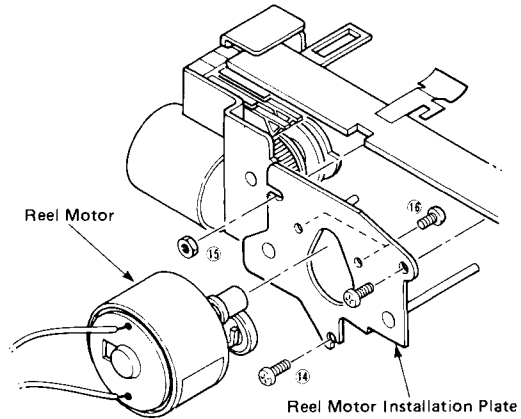

Fig. 9
- f. Remove 2 screws ⑭ and nuts ⑮ in Fig. 9 and remove the reel motor installation plate.
- g. Remove 2 screws ⑯ in Fig. 9 and replace the reel motor.